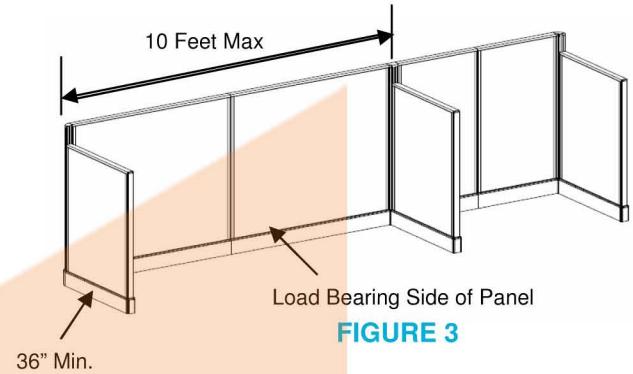

FIGURE 3
1. Panels loaded on side with shelves and/or lateral files and/or work surfaces must have 36" minimum width supporting panels on loaded side of panels and spaced at intervals not greater than ten feet for fabric panels and eight feet for acoustical, glazed, and pass thru panels. See figure 3.
- F.** Panel runs with 30" or 36" deep work surfaces require minimum support panels extending 30" for 30" deep work surfaces and 36" for 26" deep work surfaces and at intervals no greater than ten feet for fabric panels and eight feet for acoustical, glazed, and pass thru panels. See figures 3 and 4.